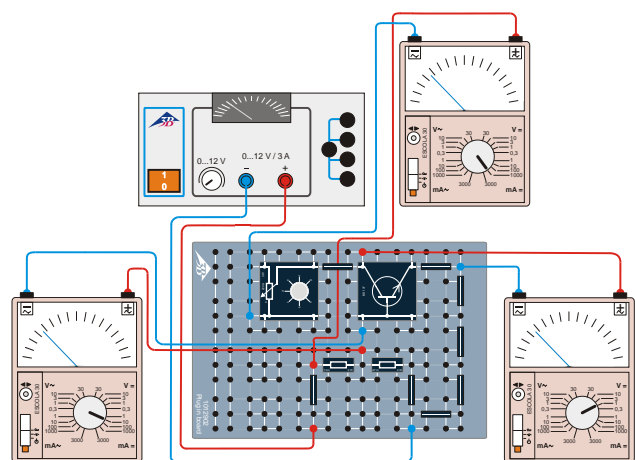

Fig. 5: Sketch of circuit for recording output characteristic.
- Set up the circuit as shown in Fig. 5. Replace the 1 kΩ potentiometer with a 47 kΩ resistor. Also insert a 220 Ω potentiometer just before the collector. The three analogue multimeters in the circuit are for the purpose of checking the base current I_B while measuring the collector-emitter voltage U_{CE} and collector current I_C .